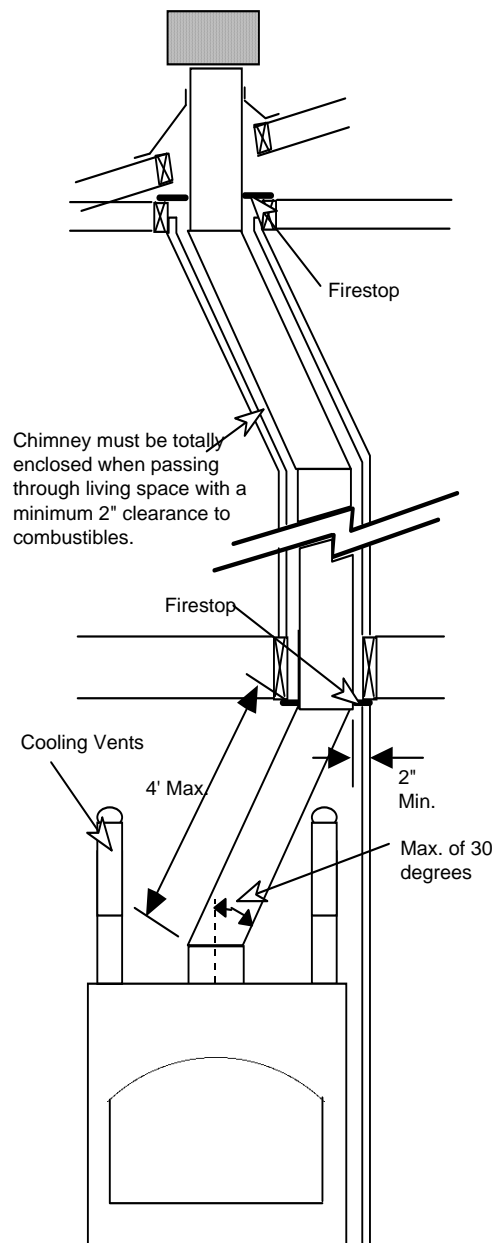

Figure 23
- Offsets (using a pair of 30° elbows) may be used to redirect the chimney. Typically this is done to avoid structures, align the pipe with framing, or to gain clearance to combustibles (see Figure 23).